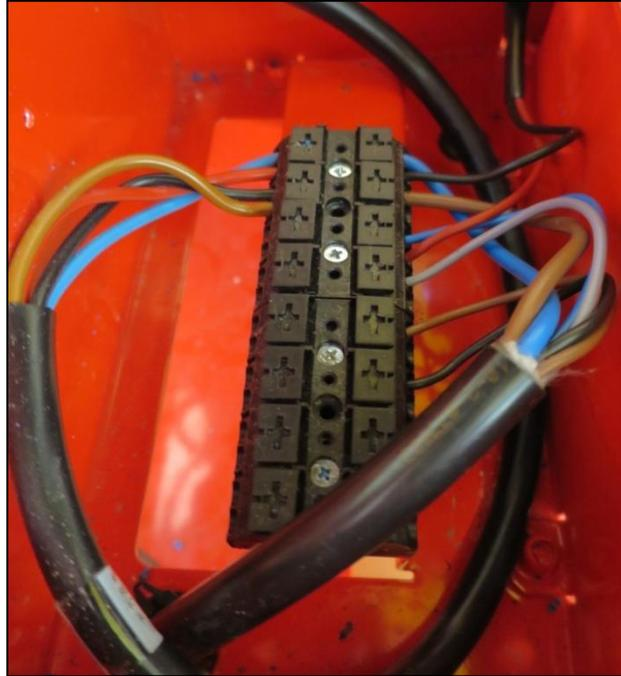
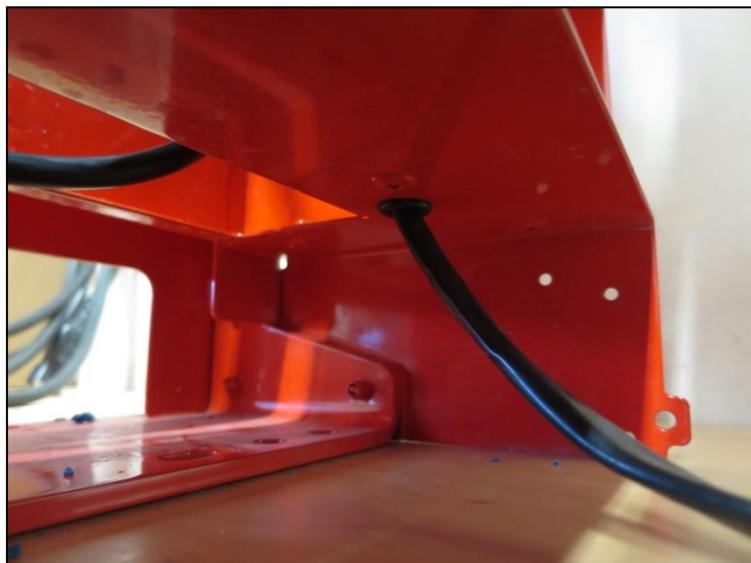

Fig.: 45
Fig.: 46
- Now disconnect the cable for the blower fan from the terminal strip. It is connected on the left side of the terminal strip in Fig.: 45 (see also the connection diagram, page 23, Fig.: 46). The installed blower fan can be removed for operating the MDD as it is not used in this case.
Pull the cable for the spreading plate motor through the grommet on the bottom side of the spreader (Fig.: 46).